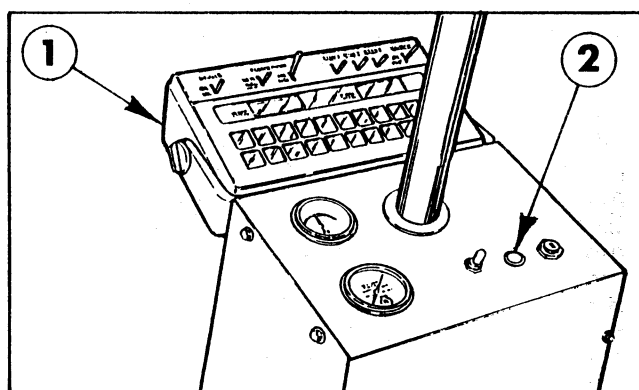

Fig. 2
**PUMP PRESSURE WARNING LIGHT (FIG. 2):** Flashes when pump pressure drops below 10 PSI.